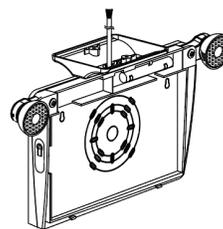

Fig. 9
- b) Pull wires through the canopy then connect the canopy to the junction box mounting plate with screws (Fig. 9).